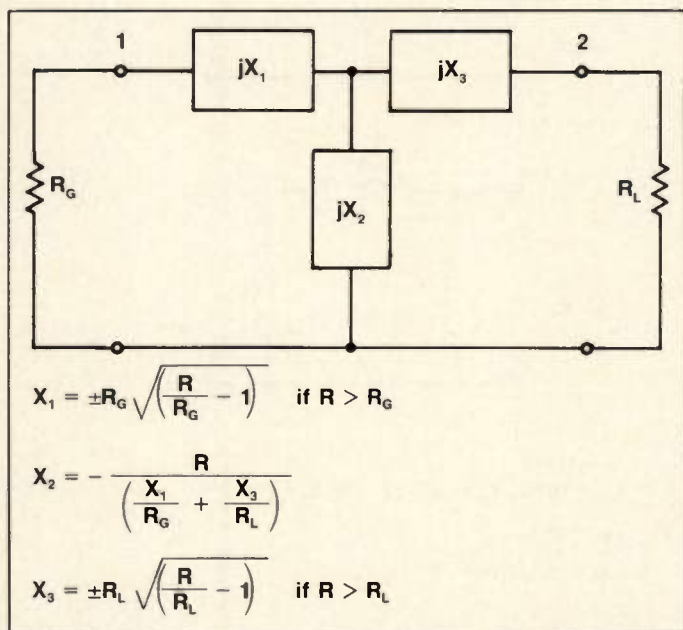
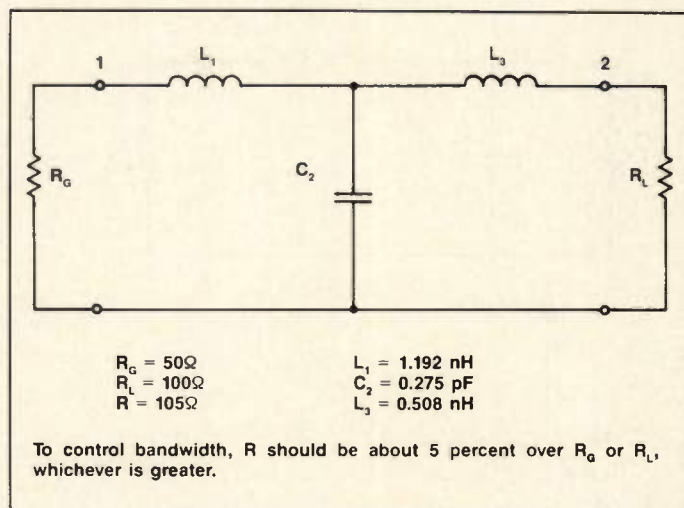

Figure 4. Three-reactance tee matching network.
Figure 6. A 7 GHz, 50 to 100 ohm tee matching network.
The author wishes to thank Carey Johnson for fabricating and characterizing the 50 ohm test lines described in Figure 4.
A three element matching network provides the opportunity of matching any resistance  $R_G$  (or conductance  $G_G$ ) to any other resistance  $R_L$  (or conductance  $G_L$ ) while providing complete bandwidth control by a third parameter  $R$  (or  $G$ ) (3) as shown in Figures 4 and 5. A good value for  $R$  is 5 percent over the maximum of either  $R_L$  or  $R_G$  for resistance and  $G_G$  or  $G_L$  for conductance. Figure 6 shows a 7 GHz, 50 to 100 Ohm tee matching network designed from the preceding formulas.